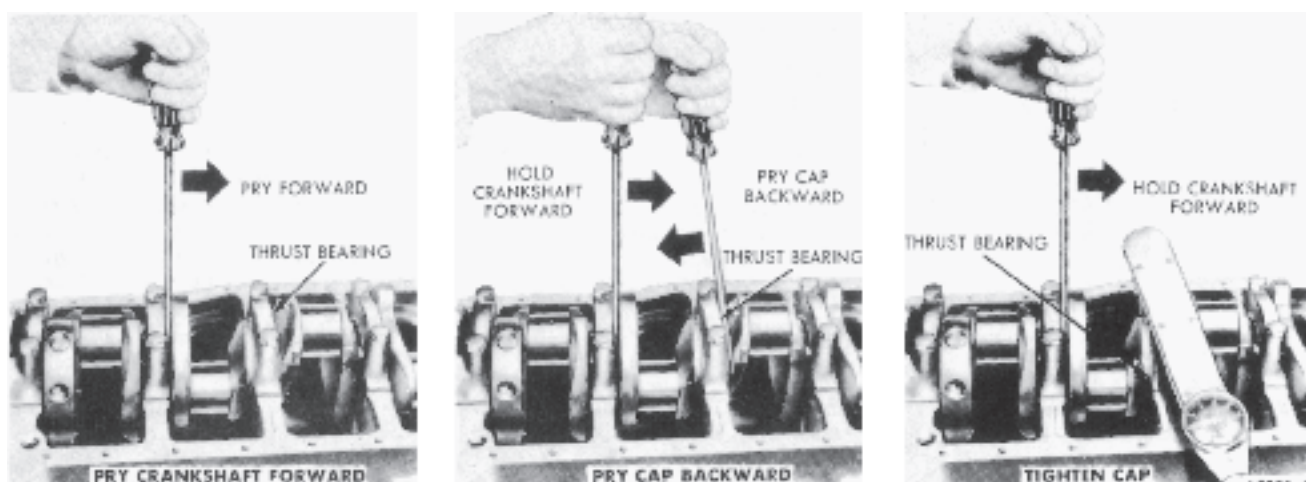

Fig. 34 Aligning Thrust Bearing
Lubricate the journal with engine oil and install the thrust bearing cap with the bolts finger-tight. Pry the crankshaft forward against the thrust surface of the upper half of the bearing (Fig. 34). Hold the crankshaft cap to the rear. This will align the thrust surfaces of both halves of the bearing. Retain the forward pressure on the crankshaft. Torque the cap bolts to specifications.
13. Pry the crankshaft forward against the thrust surface of the upper half of the bearing (Fig. 34).